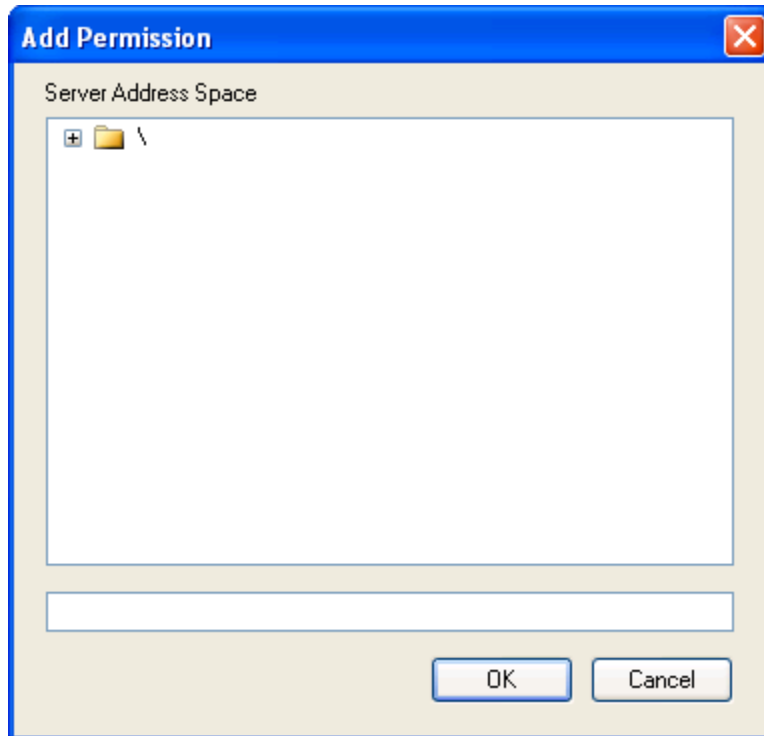

Figure 48 - Add User Permission Window
2. The **Add User Permission** window (Figure 48) appears. This window allows you to browse the OPC server address space to find either a path in the hierarchy, or a particular OPC item.